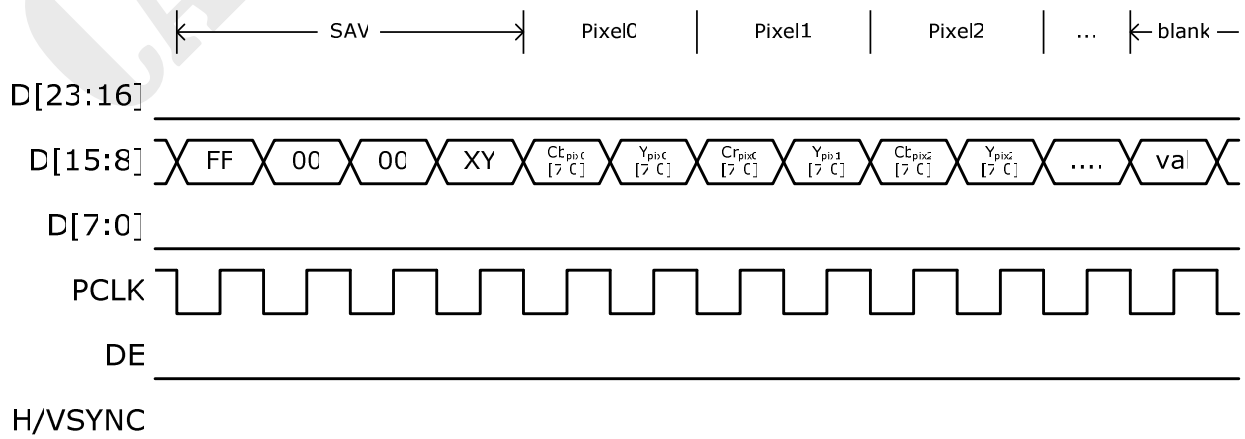

Figure 8. 8-bit CCIR-656
The CCIR-656 format is yet another variation of the YCbCr formats. The bus width is further reduced by half compared from the previous YCbCr 4:2:2 formats, to either 8-bit, 10-bit or 12-bit. To compensate for the halving of data bus, PCLK is doubled. With the double-rate input clock, luminance channel (Y) and chroma channels (Cb or Cr) are alternated. CAT6611 supports CCIR-656 format of up to 720p or 1080i, with the doubled-rate clock running at 148.5MHz. CCIR-656 format supports embedded syncs only. Figure 8 gives an example of 8-bit CCIR-656. 10-bit and 12-bit versions are similar.